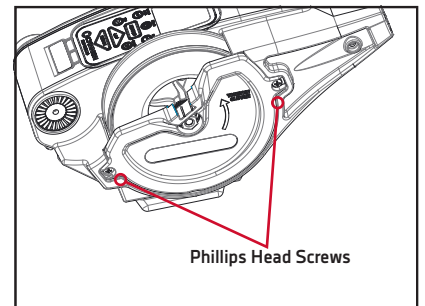

Figure 18
2. Loosen the two 1/4-20 Phillips head screws on opposite sides on the cover. (Figure 18)